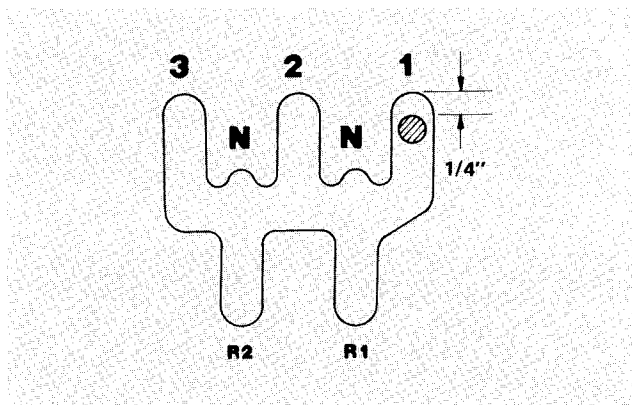

Figure 5
1. Move wheel drive control lever into No. 1, 1st gear position (Fig. 5).
3. Inspect location of control lever in slot. Control lever must be 1/4 inch from front of slot (Fig. 5).